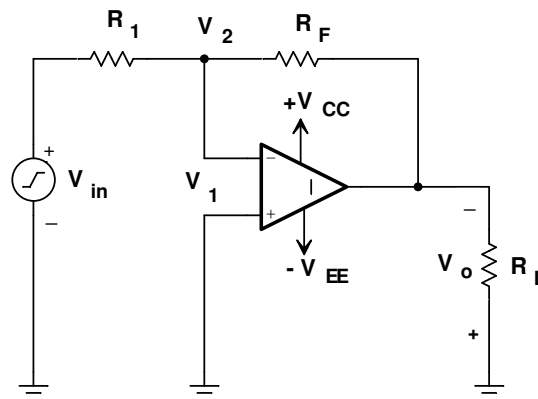

Fig.24(a) Inverting Amplifier with Feedback
**Marks (4)**
- (1) Infinite voltage gain  $A$
- (2) Infinite input resistance  $R_i$  so that almost any signal source can drive it and there is no loading of the preceding stage.
- (3) Zero output resistance  $R_o$ , so that output can drive an infinite number of other devices.
- (4) Zero output voltage when input voltage is zero.
- (5) Infinite bandwidth so that any frequency signals from 0 to  $\infty$  HZ can be amplified without attenuation.
- (6) Infinite common-mode rejection ratio, so that the output common-mode noise voltage is zero.
- (7) Infinite slew rate so that output voltage changes occur simultaneously with input voltage changes.
**Q.24** Explain the significance of virtual ground in an operational amplifier? **Marks (4)**
**Ans:** **Significance of Virtual Ground:** Fig. 24(a) shows the circuit diagram of basic Inverting Amplifier. In this figure, the non-inverting terminal is grounded, and the input signal is applied to the inverting terminal via resistor  $R_1$ . However, the difference input voltage is ideally zero: that is, the voltage at the inverting terminal ( $v_2$ ) is approximately equal to that at the non-inverting terminal ( $v_1$ ). In other words, the inverting terminal voltage  $v_2$  is approximately at ground potential. Therefore, the inverting terminal is said to be Virtual Ground. This concept is extremely useful in the analysis of closed loop Op-amp circuits.